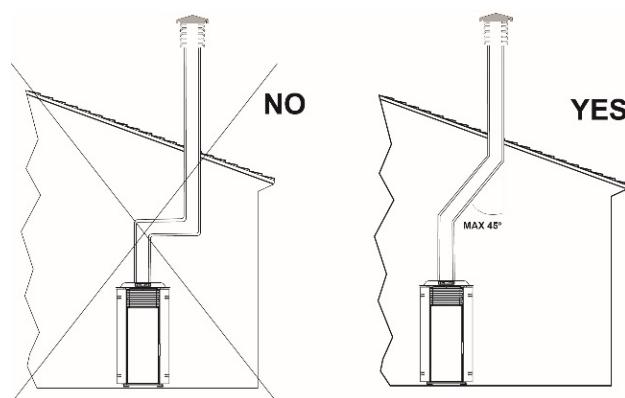

Fig.2
- The internal section must be uniform, preferably circular: the square or rectangular sections must have rounded corners with a radius of no less than 20 mm, maximum ratio between the sides of 1.5, walls as smooth as possible and without restrictions, curves must be regular and seamless, deviations from the axis no greater than 45° (*Fig. 2*).